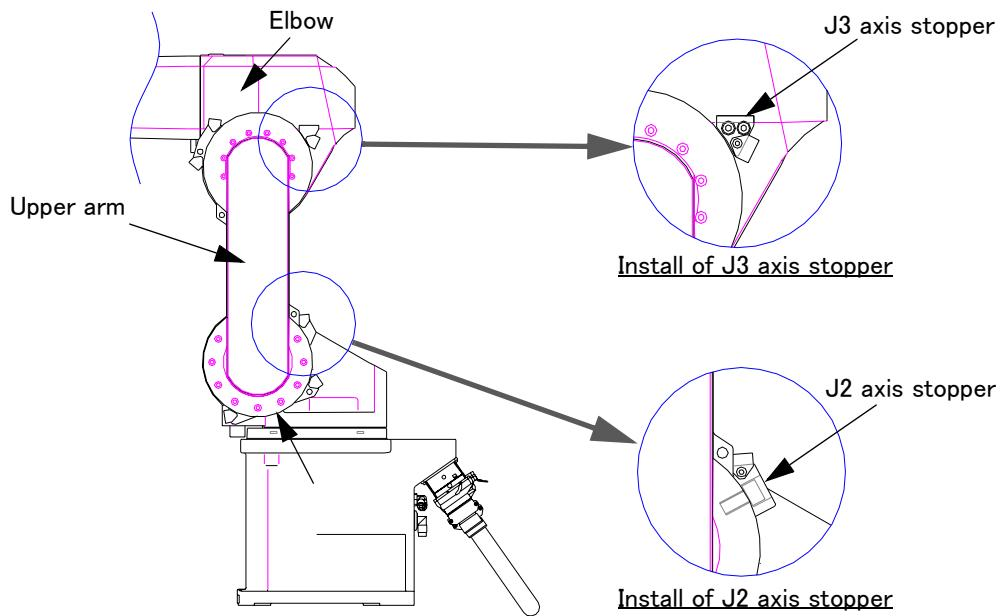

Fig.1-8 : Installation of stopper
- 3) Install the stopper with reference to the "Fig.1-8 : Installation of stopper" corresponding to the axis.